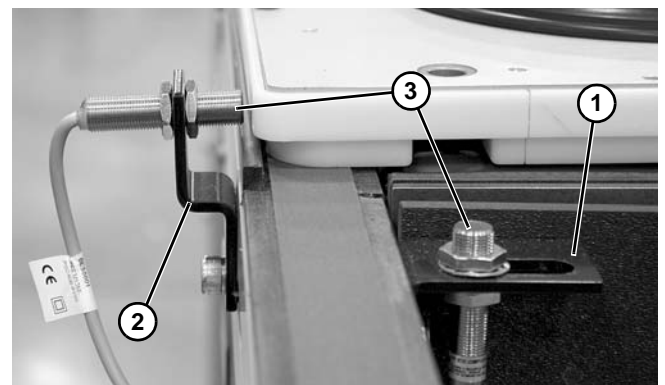

**Figure 26**
4. Connect Port 2 (**Figure 23**) of the 5 port, 2 way solenoid to the upper port (**Figure 26, item 1**) on the lift. Dorner fittings accept 1/4" outside diameter tubing standard.